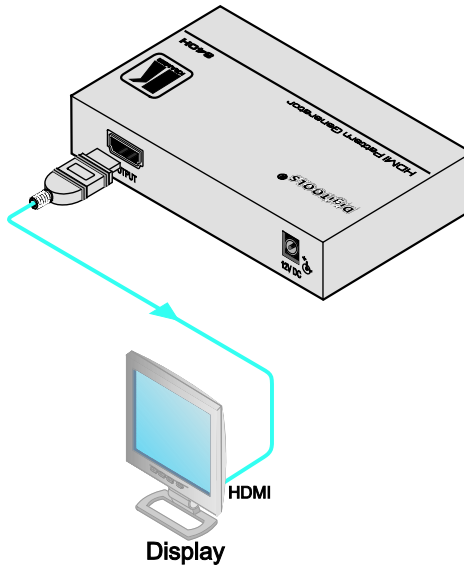

Figure 2: Connecting the 840H HDMI Pattern Generator
1. Connect the OUTPUT connector to an HDMI acceptor, for example, a flat panel LCD display (as Figure 2 illustrates), or a projector or plasma screen.